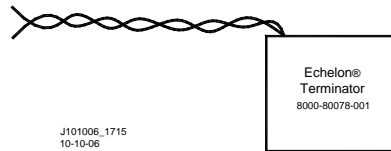

Figure 13: Siemens Echelon Terminator
- In general, Echelon network requires a terminator for proper data transmission performance be connected at each end of the daisy chained bus configuration (see Figure 13).